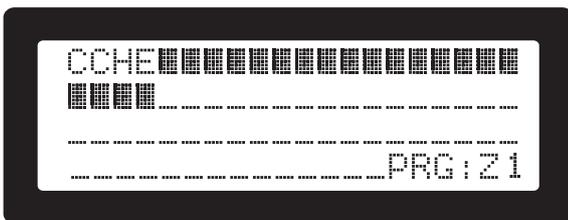

Figure 46. Cross-zone configuration screen
- Press **<2>** to activate cross-zoning for the 4 zones. The screen will now look like Figure 46. Note that all 4 required zones are automatically selected and assigned.